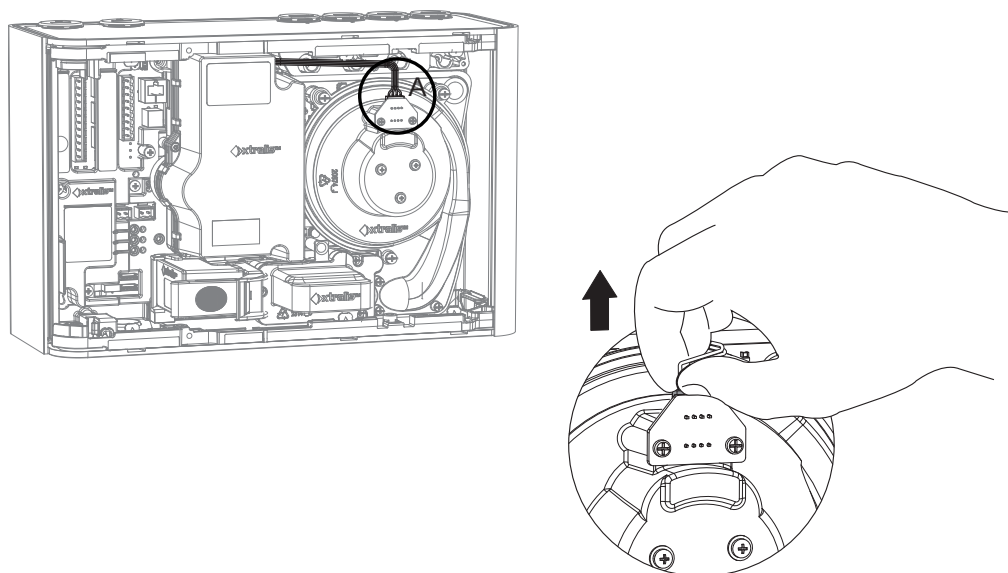

Figure 7-7: Disconnect the aspirator cable
3. Disconnect the aspirator cable (A) (Figure 7-7).